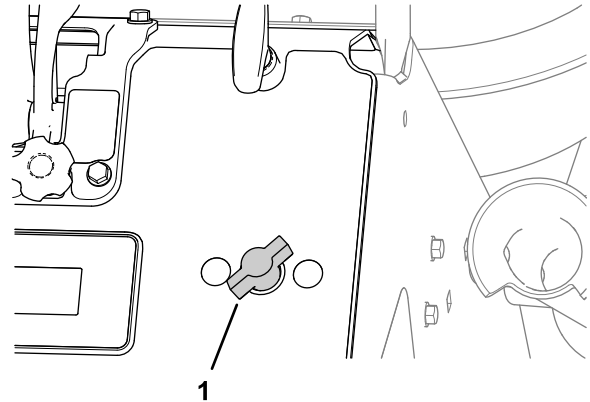

Figure 57
- To increase the pump pressure to the wand, rotate the wand-pressure control counterclockwise (Figure 57).
- To decrease pressure to the wand, rotate the wand-pressure control clockwise direction (Figure 57).
- To shut off the pressure to the wand, rotate the wand-pressure control clockwise until the valve for the control is closed (Figure 57).
6. Rotate the sprayer-wand pressure control clockwise to the OFF position (Figure 57).